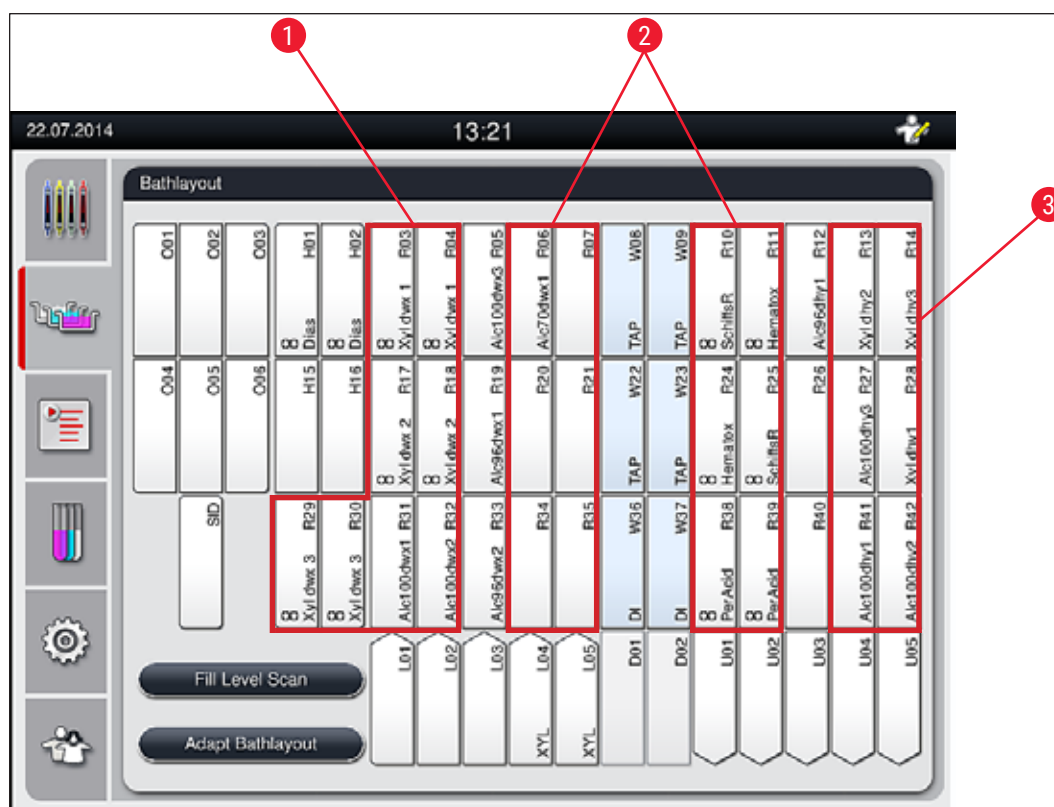

Fig. 39
- Staining reagents that require a subsequent rinsing water step are positioned adjacent to the rinsing water vessels (→ "Fig. 39").